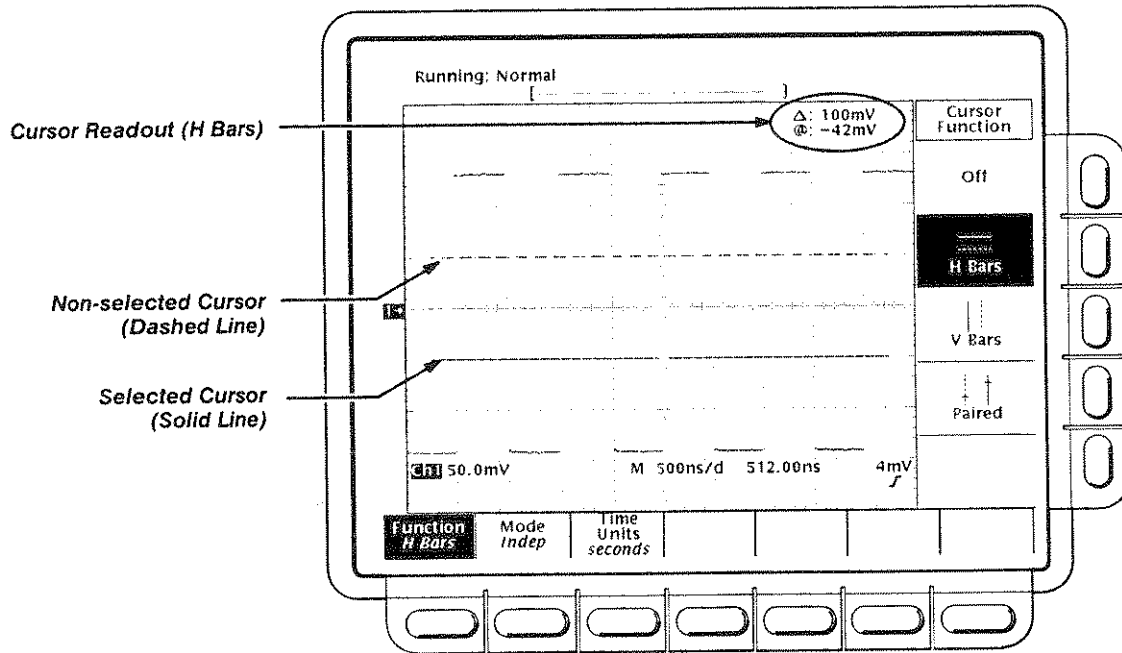

Figure 3-6: H Bars Cursor Menu and Readouts
- **H Bars:** the value after  $\Delta$  shows the voltage difference between the cursors. The value after @ shows the voltage of the selected cursor relative to ground (see Figure 3-6).